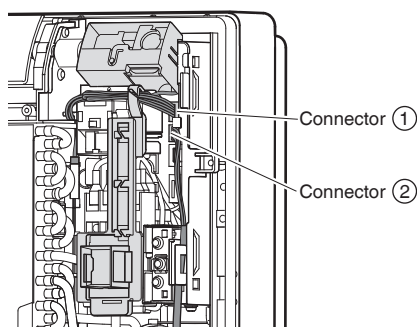
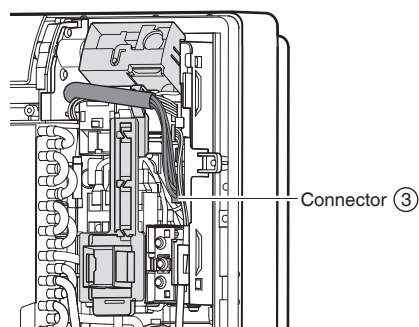

Fig. 2
Fig. 3
- 3) Remove the front metal plate electrical wiring box cover (4 tabs). (See Fig. 3)
- 4) Remove connectors ① ② ③. (See Fig. 2 and Fig. 3)
- 13) Install the connectors ① ② and guide the cord as shown in the figure. (See Fig. 2)
- 14) Install connector ③ and guide the cord as shown in the figure. (See Fig. 3)